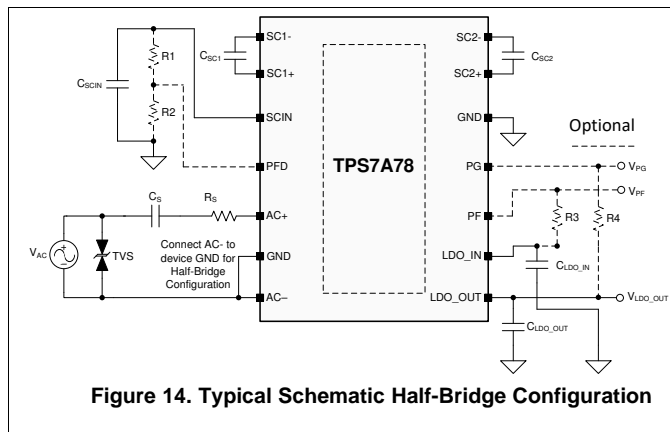

Figure 14. Typical Schematic Half-Bridge Configuration
7.3.2 Full-Bridge (FB) and Half-Bridge (HB) Configurations
The TPS7A78 can be configured to operate either in full-bridge (FB) or half-bridge (HB) configurations. HB configuration ties the AC input pin without the series C_S and R_S components to the device GND pins. See Figure 14 and Figure 15 for the HB and FB configurations.
The TPS7A78 can monitor the rectified DC voltage at the SCIN pin to provide the application with an early warning via the power-fail (PF) pin if the main power fails. An external resistor-divider network connected to the VSCIN pin provides the input to the power-fail detect (PFD) analog input pin to monitor for an AC line supply failure. When the AC supply falls below its minimum level programmed by the resistor divider R_1 and R_2 , as illustrated in Figure 14 and in Figure 15, the PF output is pulled low. If this feature is not used, omit R_1 and R_2 and connect PFD and PF pins to the device GND pins reference.
The TPS7A78 is a non-isolated smart AC/DC linear-voltage regulator capable of providing a maximum 120-mA load current; see Figure 14 and Figure 15 for the HB and FB configurations, respectively.
All the capacitors illustrated in Figure 14 or Figure 15 are required for proper operation. The value of C_S required to support the application current is obtained from the Calculating the Cap-Drop Capacitor \$C_S\$ section. The chosen C_S capacitor must tolerate the peak V_{AC} supply voltage of the application and meet the required safety requirements.